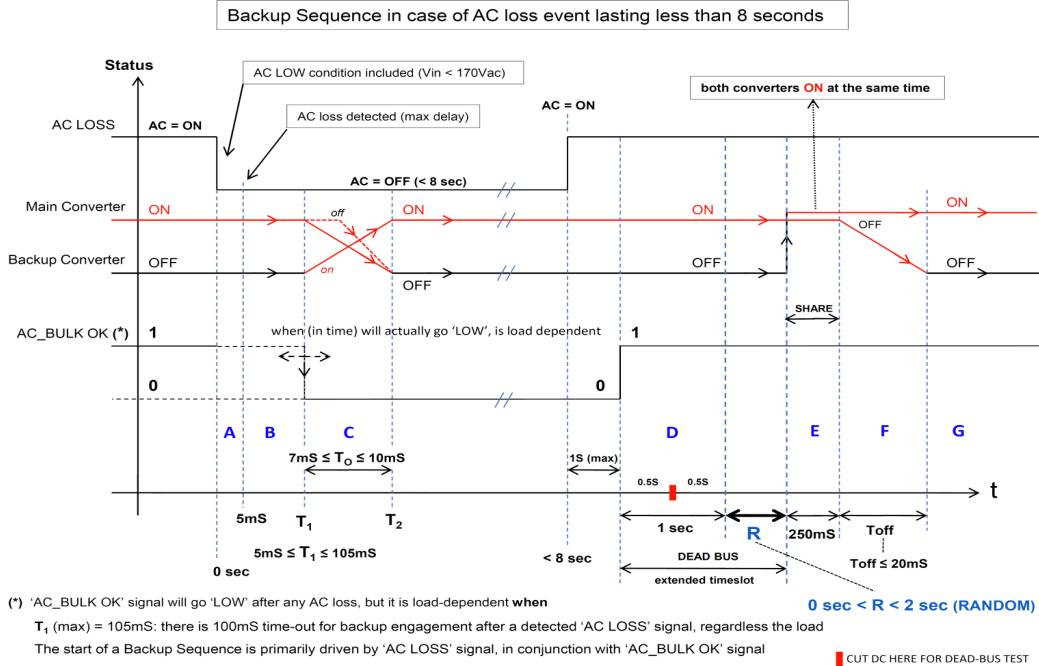
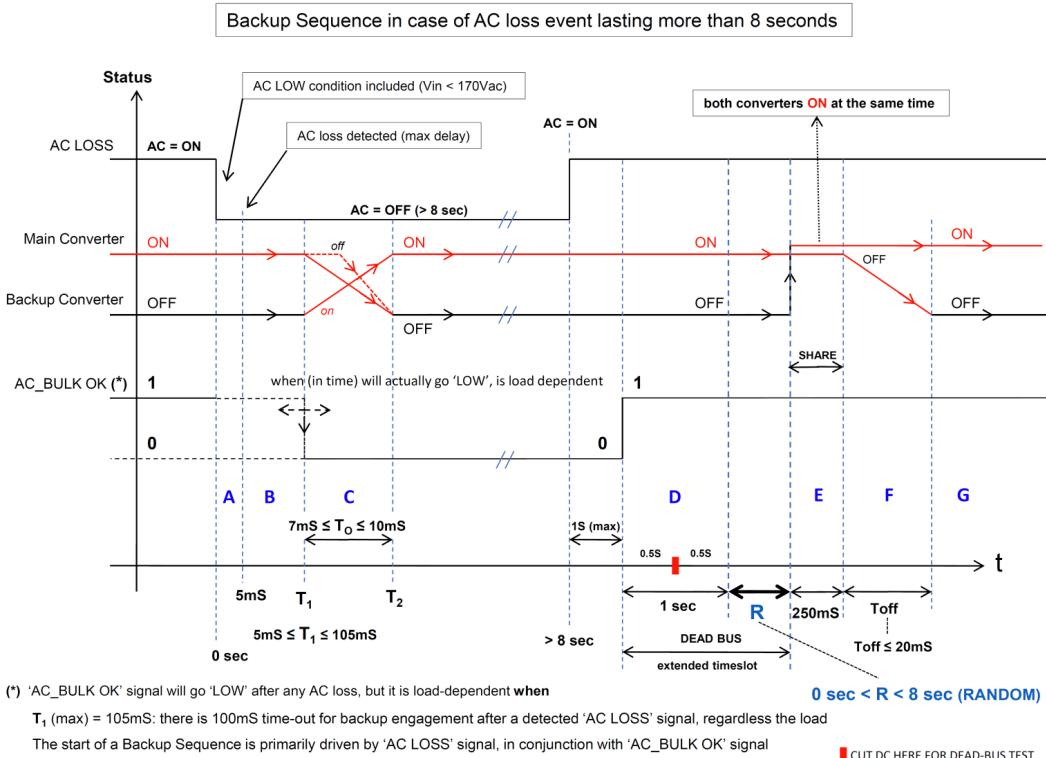

Figure 3 Backup Sequence, AC Event < 8 Seconds
Figure 4 Backup Sequence, AC Event > 8 Seconds
The DC backup converter is switched on at the earliest $\geq 5\text{ms}$ after an actual AC loss event at full load. During transitions between AC input converter to DC input converter (and vice versa), both converters (AC input and DC input) operate in parallel (see Figure 3 and Figure 4), balancing the load at best.
4. If the AC returns during a backup phase, the DC main converter turns on only after a valid bulk voltage, in conjunction with a continuously valid AC input, is continuously present for at least 1 second, and works in parallel with the DC backup converter during the following 0.25 seconds, sharing the load at best. If AC LOSS or AC_BULK OK signals toggle during the timing intervals above, the counters (1 sec or 0.25 sec) reset and start over. At the end of the 0.25 sec portion, the DC backup converter phases away in a < 20ms time window, releasing back the full load to the DC main converter (see Figure 3). This generates a backup sequence mode that guarantees the highest rejection against input AC disturbances/random dips, on top of guaranteed UPS grade performances during an AC outage.
Figure 3 and Figure 4 illustrate the backup power sequences.